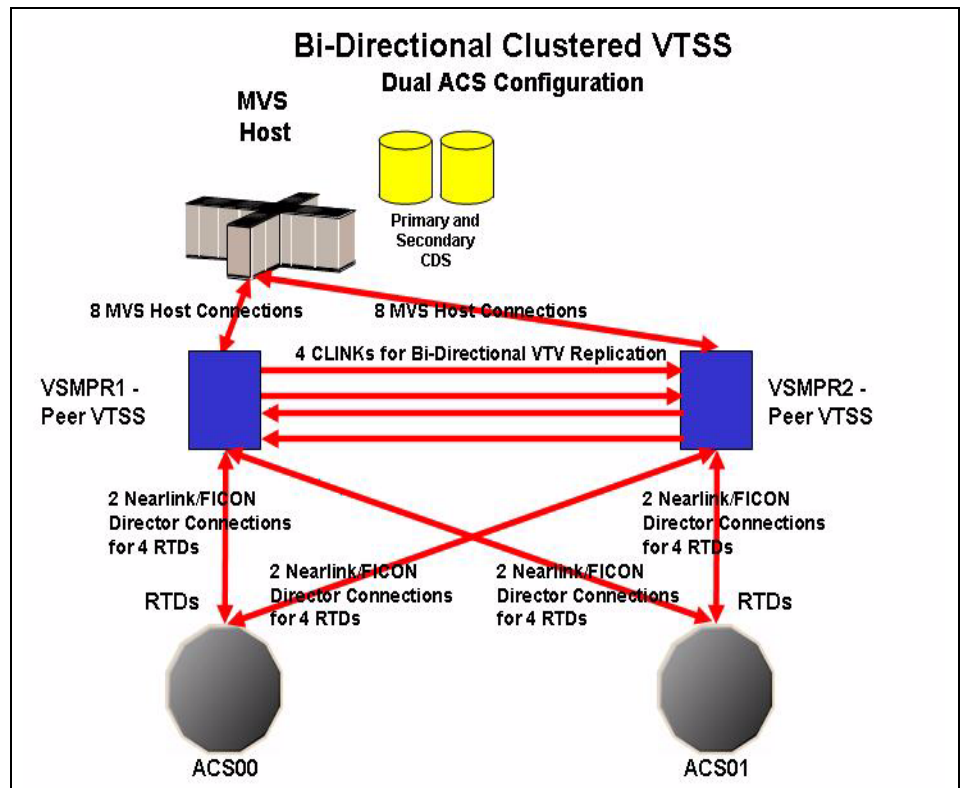

Figure 4. Bi-Directional Cluster attached to a Dual ACS
- *Bi-Directional Clusters*, which consist of two *Peer VTSSs* connected by one or more cluster links (CLINKs). Figure 4 shows a Bi-Directional Cluster attached to a single ACS. The CONFIG CLUSTER statement defines the Cluster, and the CONFIG CLINK statement(s) this Cluster as Bi-Directional.
Figure 4 shows a Peer-to-Peer VTSS Cluster cross-connected to two ACSs for increased redundancy (for example, for enhanced Disaster Recovery capability).